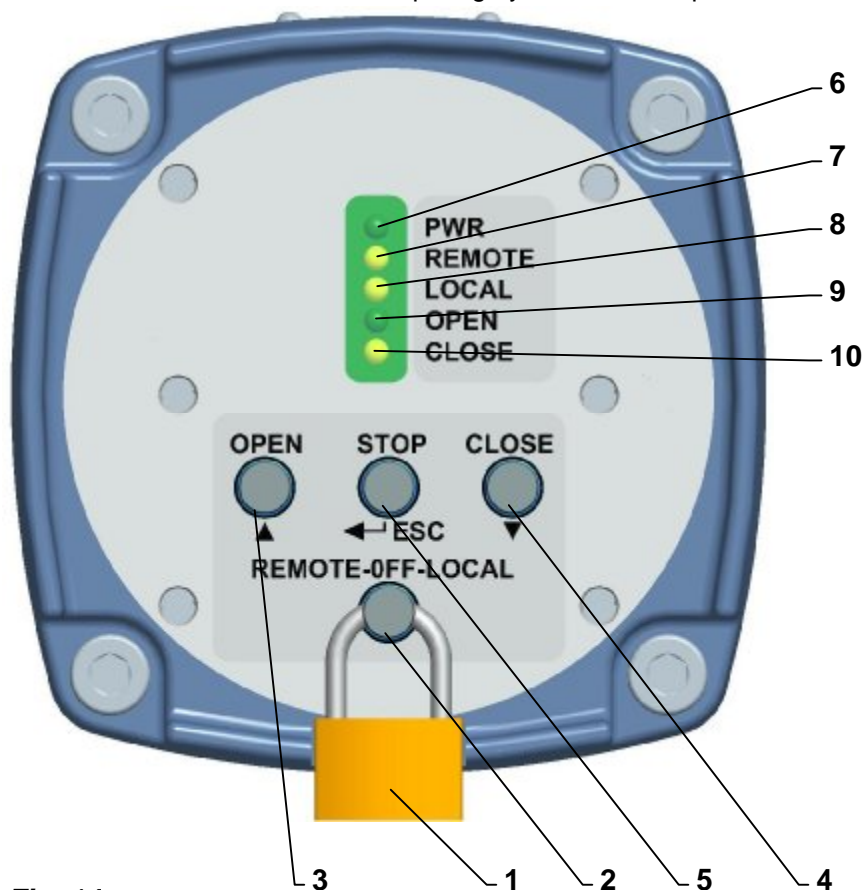

Fig. 14
4.9 Local electric control (Fig.14)